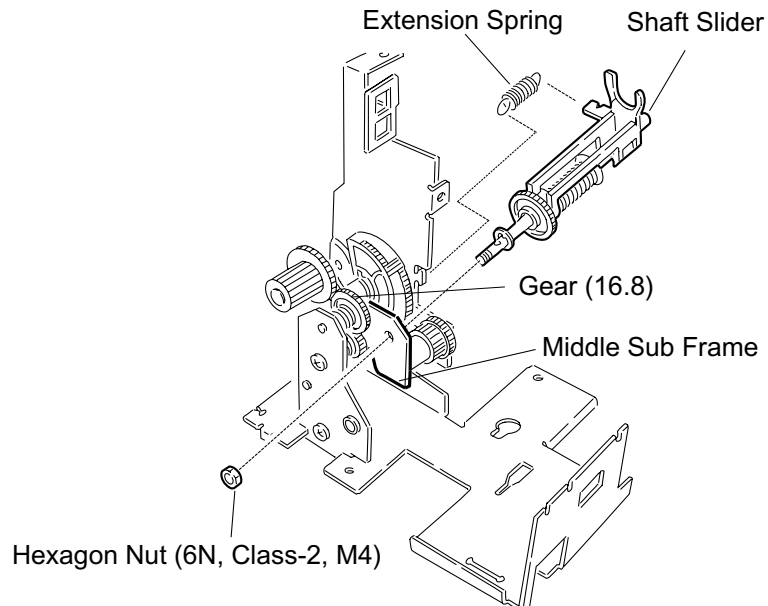

Figure 3-62. Slider Shaft Removal
2. Remove 2 screws (CBS, 3x6, F/Zn) securing the pump motor. (See Figure 3-62.)